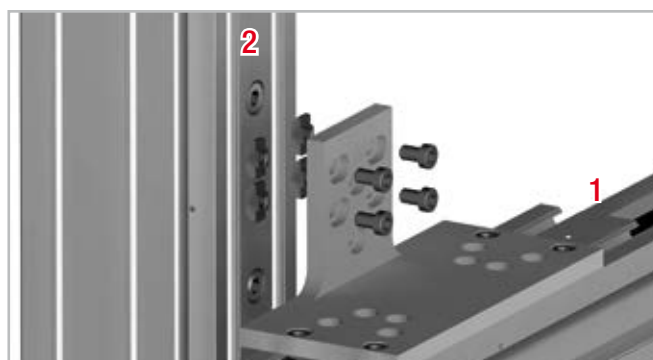

Fig. 94
4. To fix the connection plate to unit 2, insert the screws into the prepared holes on the short plate side (see fig. 94).